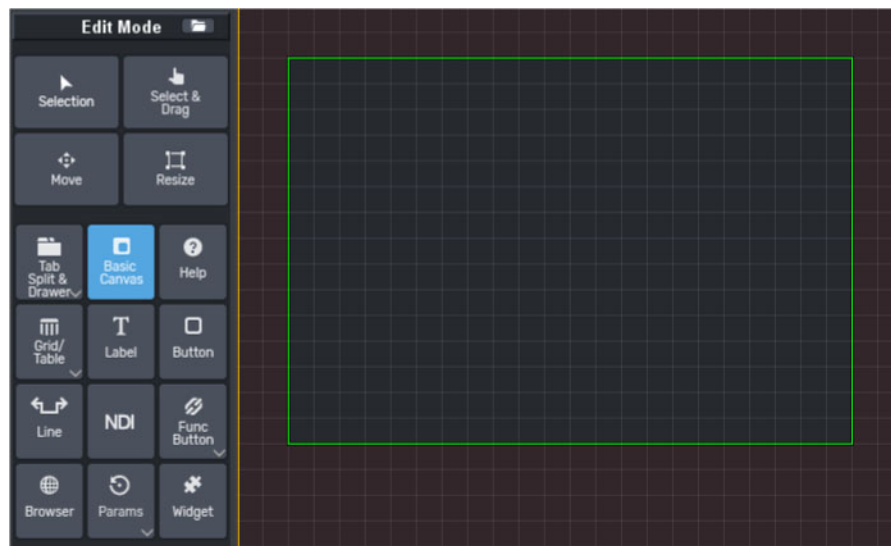

Figure 5.14 - Adding a Basic Canvas (with **Basic Canvas** button selected, dragging to define canvas area)
2. Drag a box on the panel to define the canvas area. The area outlined in green in **Figure 5.14** is a basic canvas area.